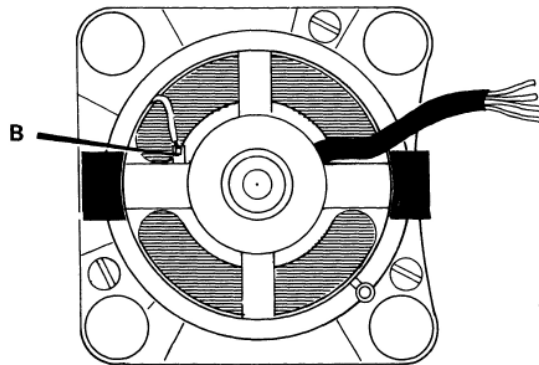

Fig 2
Fig. 2 Current production armatures have the wires connected to the commutator segments directly in line with the point at which they emerge from the armature laminations.
A motor containing a current type of armature is illustrated in Fig. 2 and the special features are:
- 2) Pull wiring tag 'A' out of the brush holder, turn the field assembly in a clockwise direction until it assumes the position shown in Fig. 2.
- 3) Re-connect the field coil lead to the brush-holder as shown in Fig. 2 'B'.